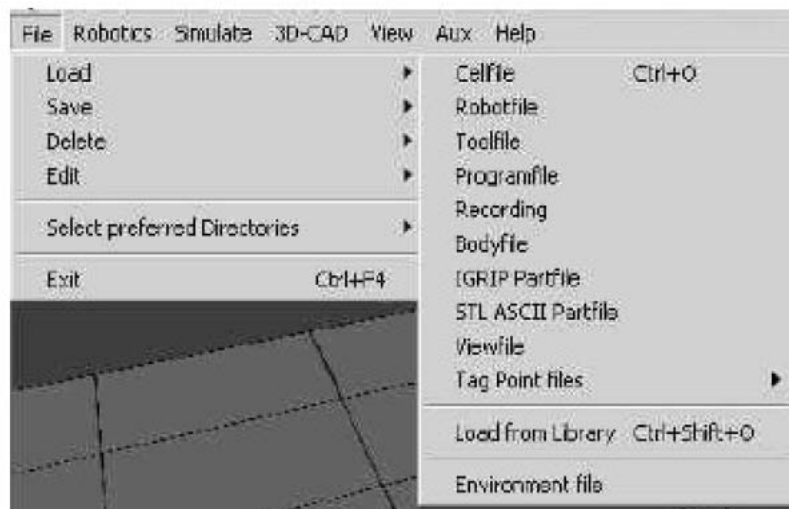
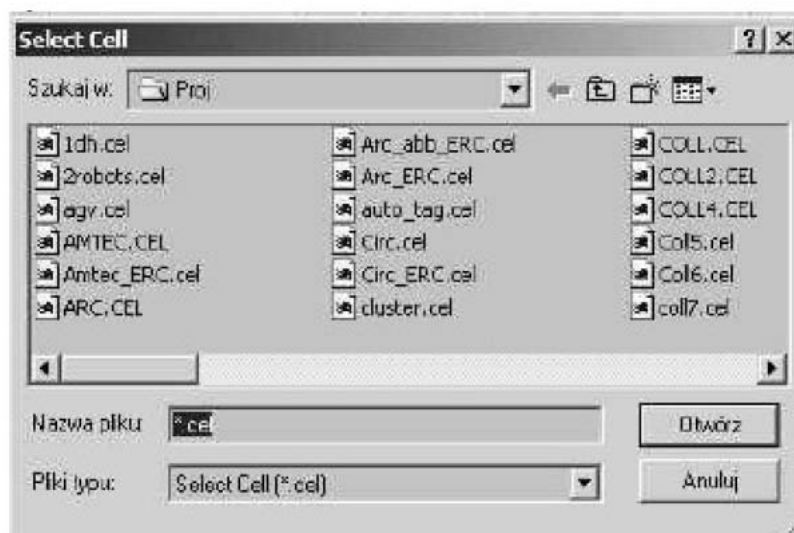

Fig. 2.2 Loading procedure
Fig. 2.3 Cell files
1. Loading a robot, Fig. 2.2, Fig. 2.3,